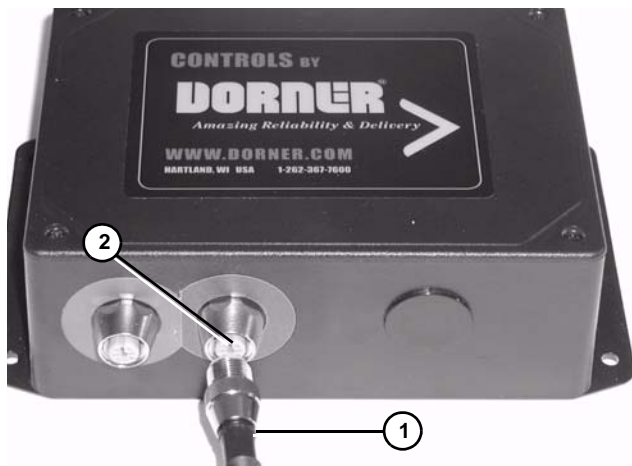

Figure 10
To create an end stop application, connect the photo eye cable (Figures 10 or 11, item 1) to the blue port (Figures 10 or 11, item 2) on the bottom of the controller.